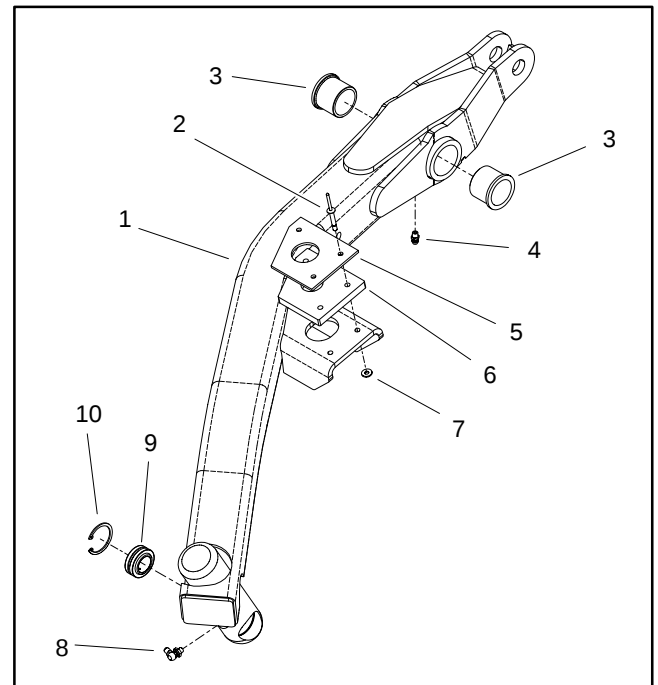

Figure 14
5. If necessary, disassemble lift arm using Figure 14 as a guide.
1. If lift arm was disassembled, install lift arm components using Figure 14 as a guide.